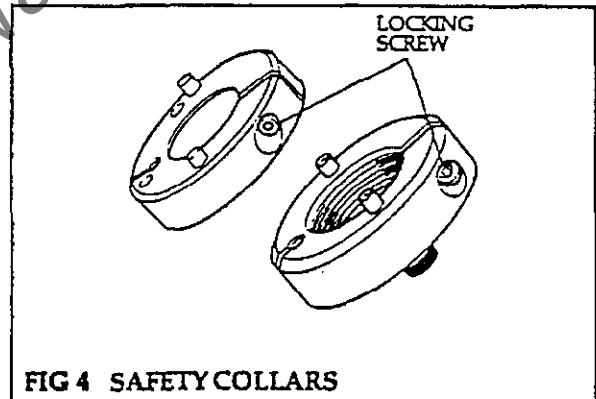

FIG 4 SAFETY COLLARS
- (1) After removal of the outboard support, release locking screw on safety collar (fig 4) and remove from spindle
- (2) Depressurise the hydrogrip cutterblock by turning the pressure release screw (2), located in a recess on the barrel of the cutterblock one quarter turn to release, using a 3mm A/F hexagon key.
- (3) Slide the cutterblock from the spindle.
- (4) Always leave the pressure release screw (2) undone when the cutterblock is not in use to avoid distortion to the cutterblock due to the variation in room temperatures.
- (3) Fit safety collar (see fig 4) and tighten securing screw.
- (4) On plain bore cutterblocks. Tighten the block to the spindle with the spanner/s provided.
- (5) Turn the spindle slowly to ensure the cutterblock is free and replace cover.
- (6) Operate the spindle for a short period to ensure it rotates freely and without vibration.
Safety Collars (fig 4)